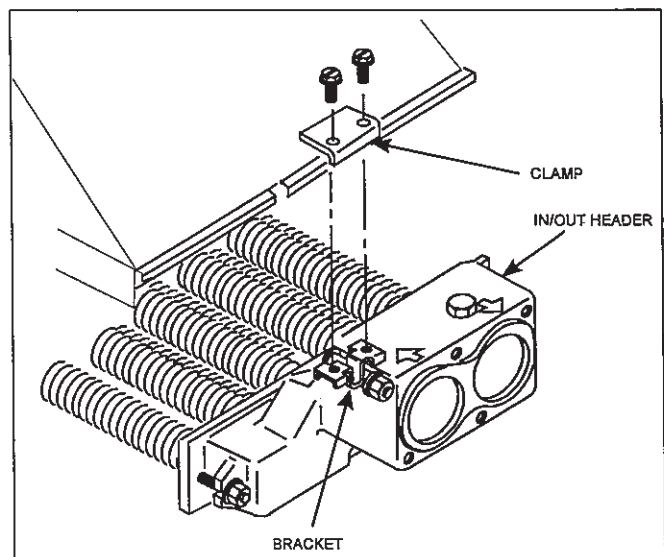

Figure 13. Flue collector holddown brackets.
8. Remove the screws securing the two flue collector holddown clamps and remove the clamps (see Figure 13). Remove flue collector.